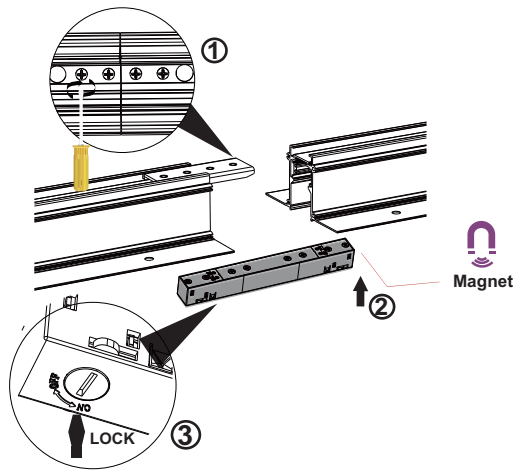

Figure 20
4. Straight continuous row mount can be done by connecting the two tracks with LAA-REC-CM01. Tighten the screws on LAA-REC-CM01 with Philips screw driver. Also, insert joint connector LAA-U-CE01. Turn the lock from OFF to ON position with flat head screw driver (Figure 20).